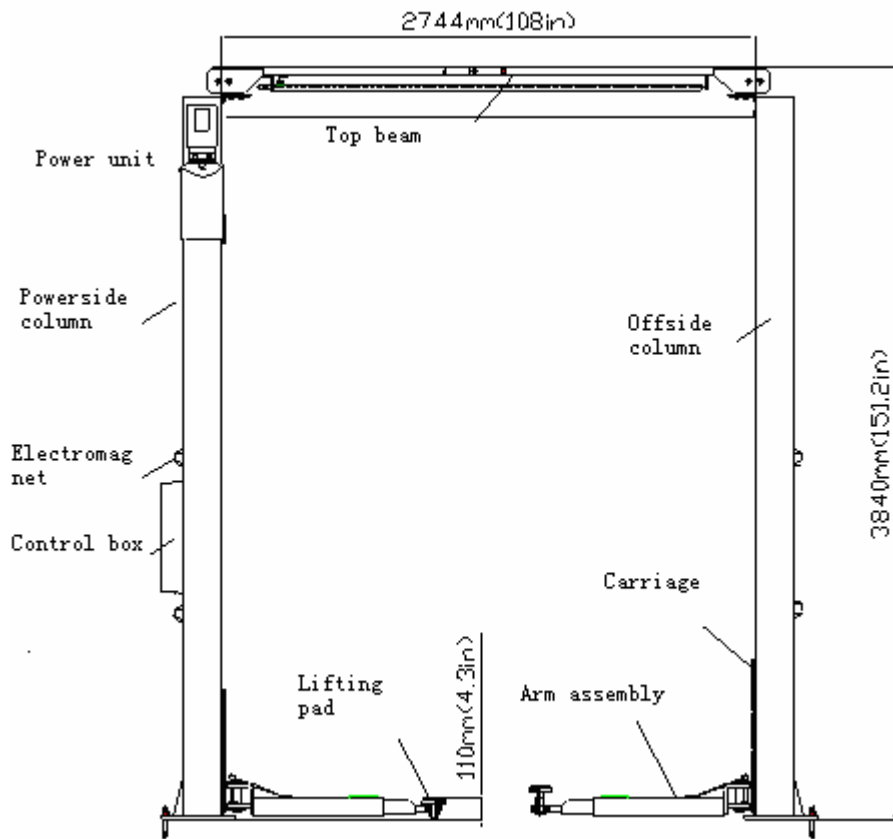
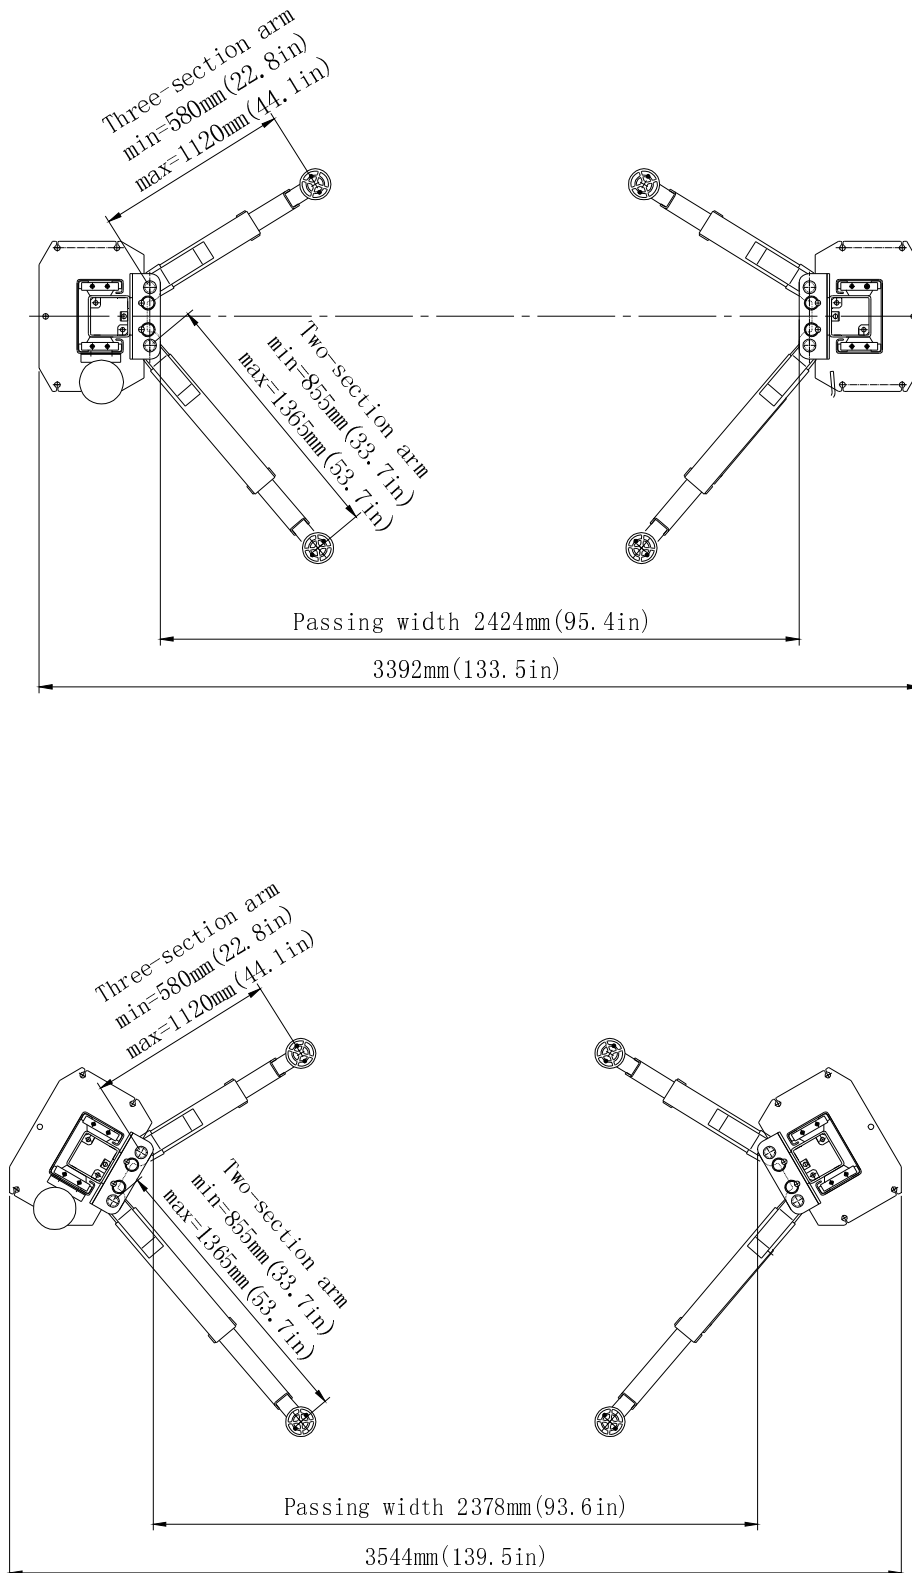

Fig.1d
Fig 2d
TLT235SCA(U) clear-floor 2-post lift	3.5T Electronic clear-floor 2-post lift (Fig1d、 Fig2d)